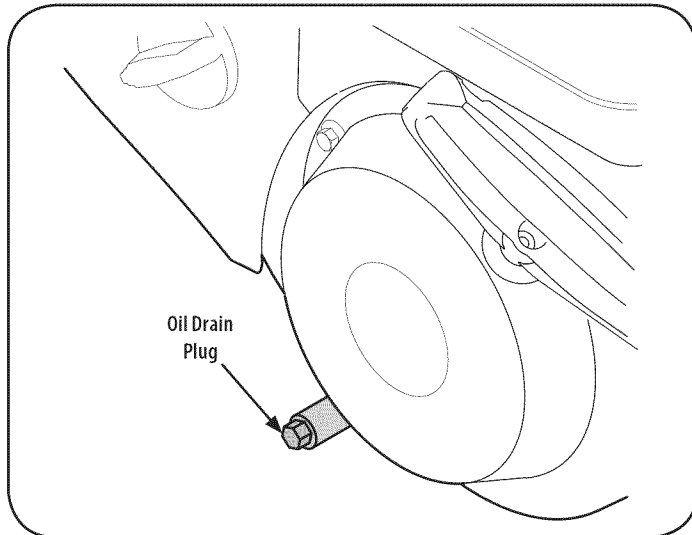

Figure 13
3. Remove oil drain plug. See Figure 13 on next page.